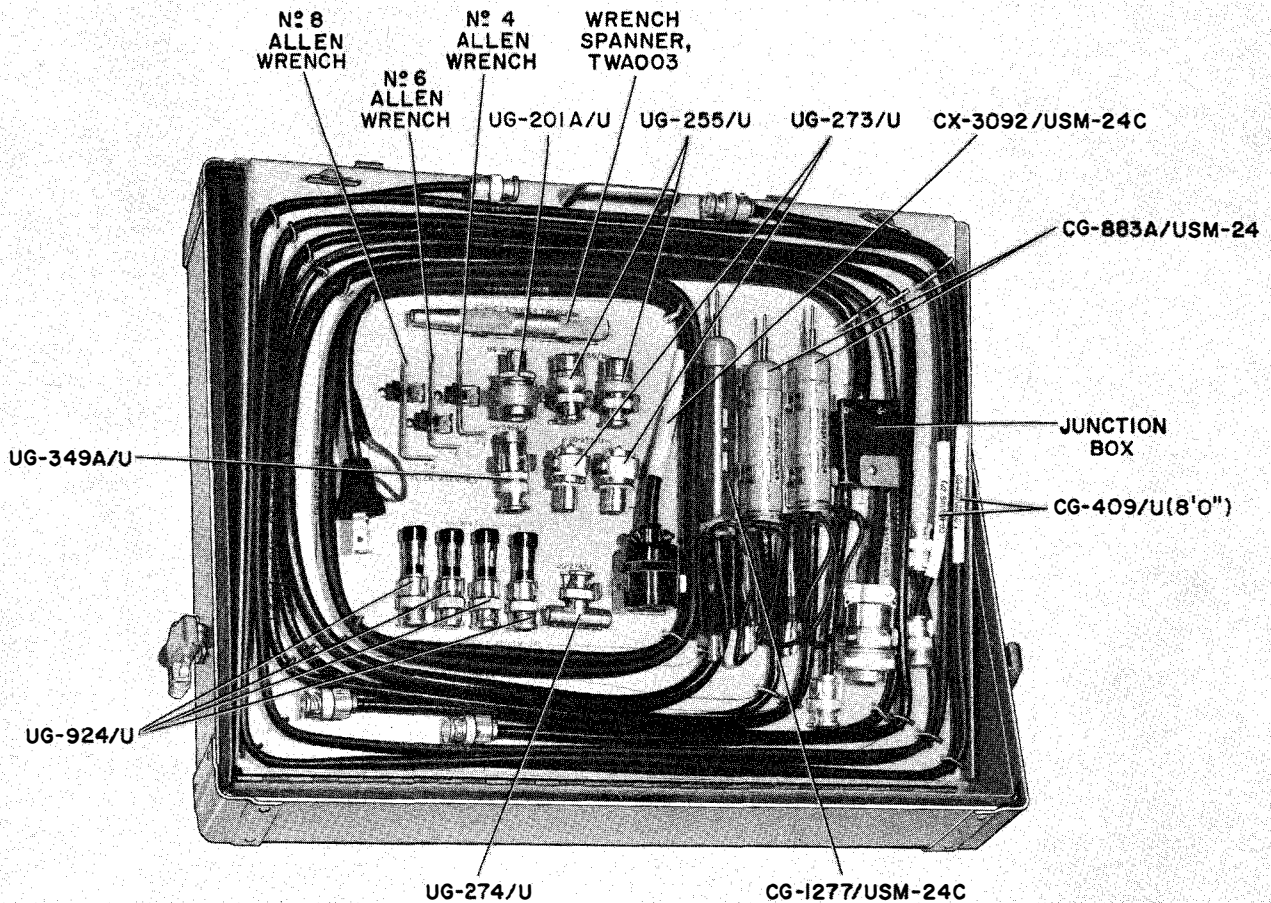

Figure 1-3. Cover, Combination Case CW-362/USM-24C with Accessories Mounted
a. All accessories are mounted in Cover, Combination Case CW-362/USM-24C. Figure 1-3 shows all accessories as mounted.